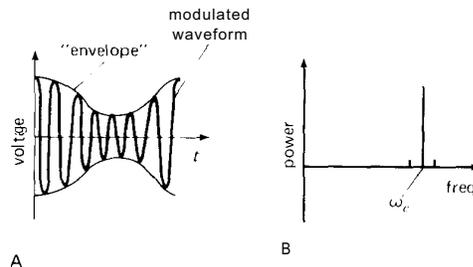

Figure 13.37. Amplitude modulation.
i.e., the modulated carrier has power at frequency  $\omega_c$  and at frequencies on either side  $\omega_m$  away. Figure 13.37 shows the signal and its spectrum. In this case the modulation ( $m$ ) is 50%, and the two "sidebands" each contain  $\frac{1}{16}$  of the power contained in the carrier.